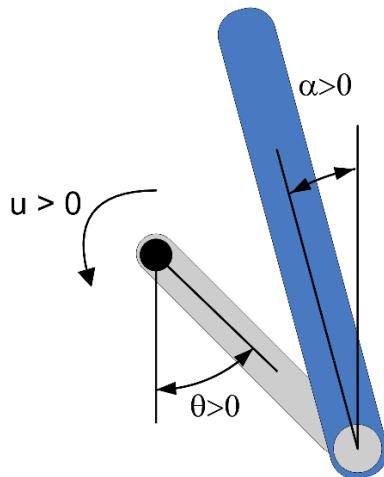

Figure 9.1: Free-body diagram of rotary pendulum
The rotary pendulum system, also known as the Furuta Pendulum, is a classic system often used to teach modeling and control in physics and engineering. The free-body diagram of a basic rotary pendulum is depicted in Figure 9.1.
9. Rotate the pendulum to the upright vertical position and ensure the angle is measured correctly and it follows the free-body diagram in Figure 9.1. Capture the response of the pendulum being raise to the inverted position. Explain what the bias and modulus functions do?